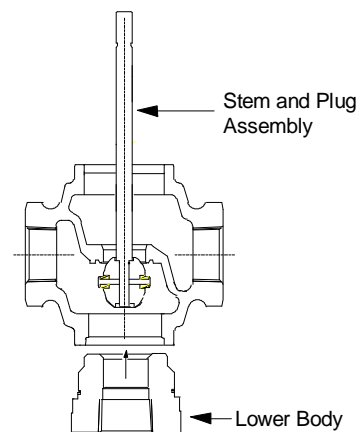

Figure 3: N.C. Lower Body Assembly
- While holding the stem and plug assembly in place, thread the lower body/bottom cap by hand until finger tight. (See Figure 3.)